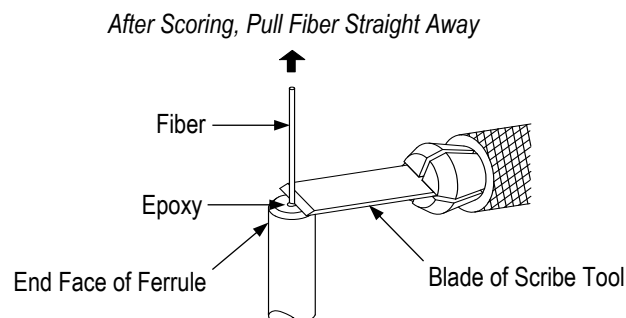

Figure 4
1. Place the blade of the fiber optic sapphire scribe tool just above the epoxy on endface of the ferrule, and score the fiber with a light transverse motion. See Figure 4. For detailed instructions on using the scribe tool, refer to 408-4293.